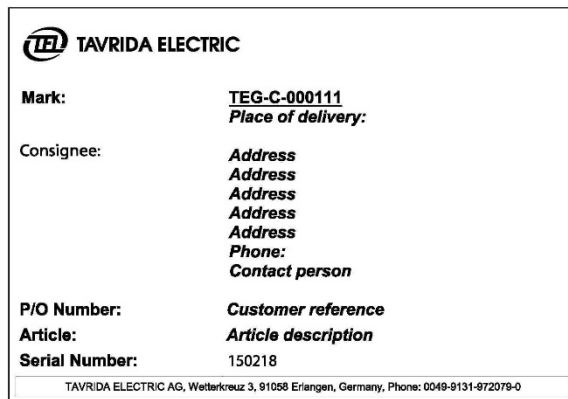

Figure 27
- Label 2 for logistics data (Figure 27)